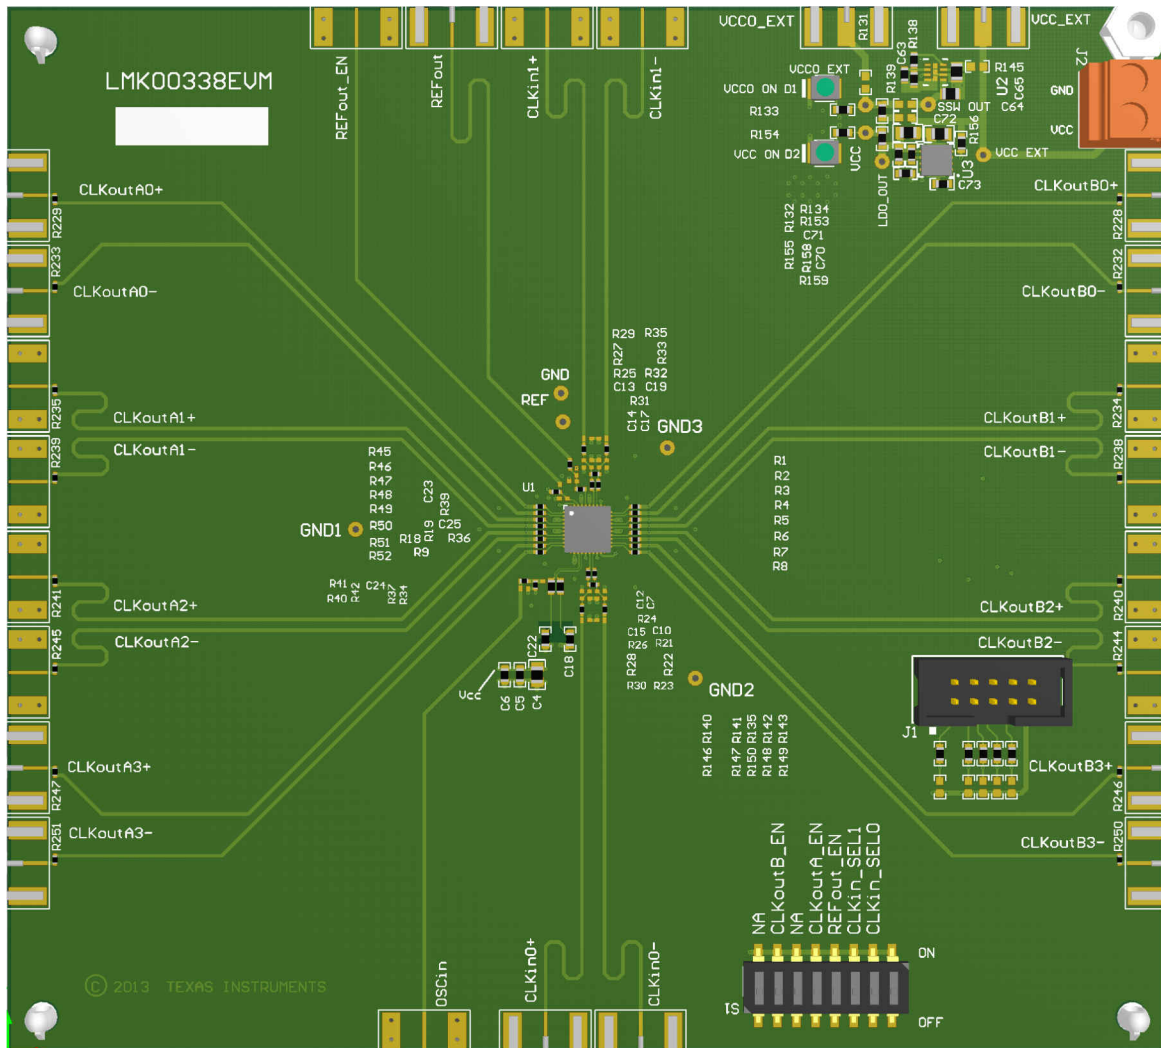

图 10-1. LMK00338 Layout Example
- For DC-coupled operation of an HCSL driver, terminate with $50\ \Omega$ to ground near the driver output as shown in 图 10-1.